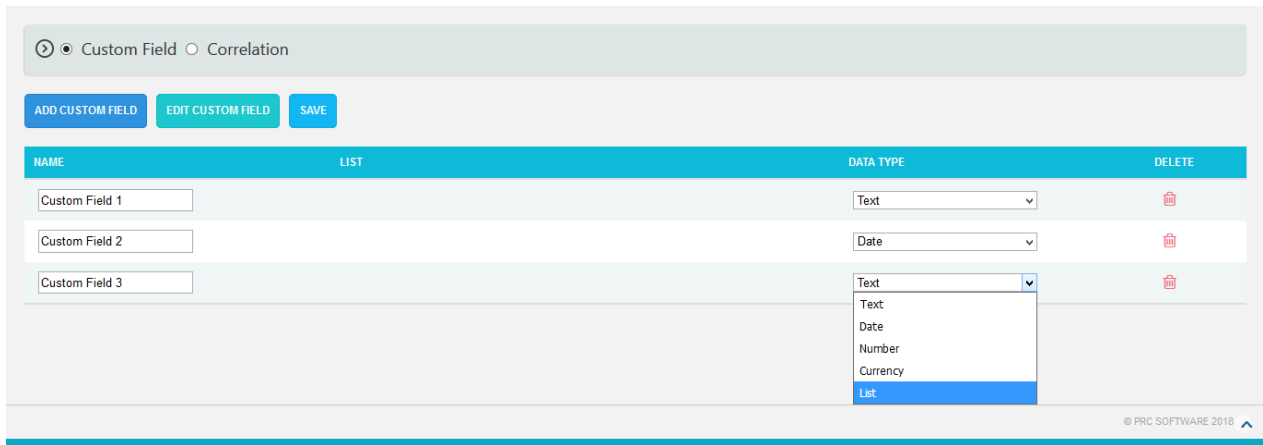

Figure 2.50
6. Click **SAVE** button to finish. (Figure 2.50)